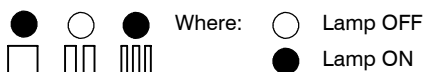

Fig. 8.4
- 12 Press the reset button 6 repeatedly (4 times) until the lamps 9 give the indication as in Fig. 8.4 (gas type mode).